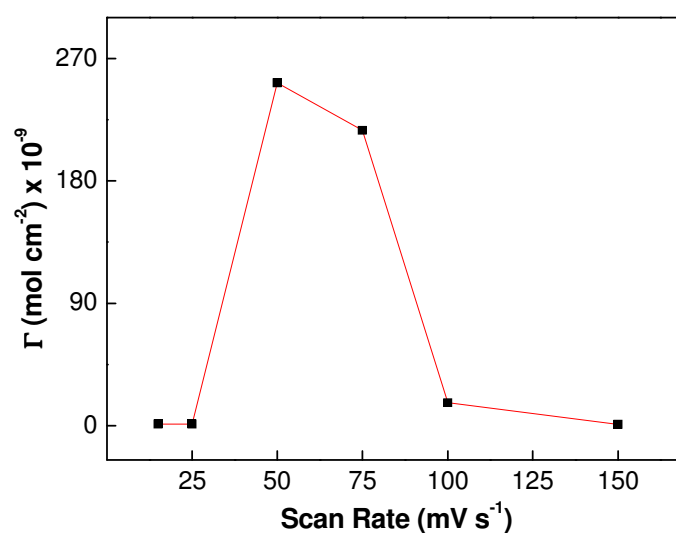

Figure 2S – Surface coverage values in function of scan rate used on electropolymerization stage.
Figure 2S – Differential pulse voltammogram of poly[Ni₂(*bisalphen*)] modified electrode in presence of different cations: (A) alkaline and (B) alkaline earth. (pulse = 50 mV; scan rate = 5 mV s⁻¹).